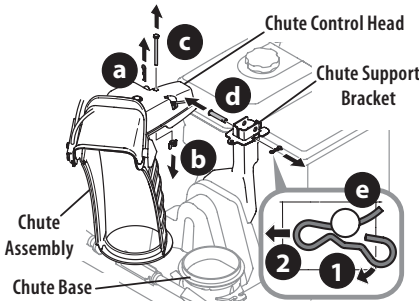

Figure 13
1. Remove hairpin clip (a), wing nut (b) and hex screw (c) from chute control head and clevis pin (d) and bow-tie cotter pin (e) from chute support bracket (Figure 13).